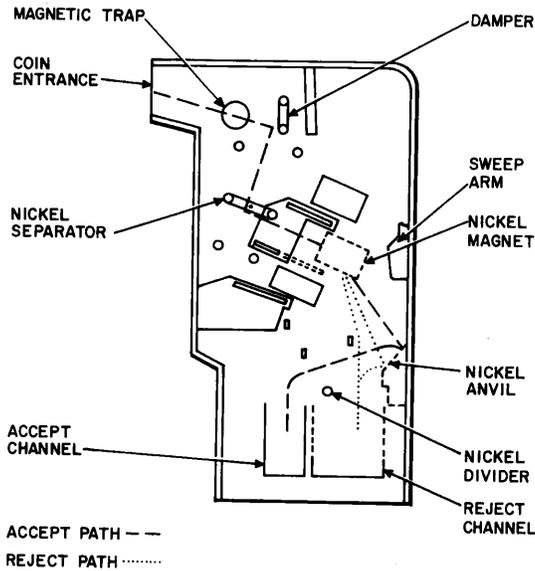

Fig. 2—Nickel Path in a Typical Coin Chute
2.01 Nickel Operation—Valid Coin Accepted (Fig. 2).
2.02 Nickel Operation—Coin Rejected (Fig. 2).